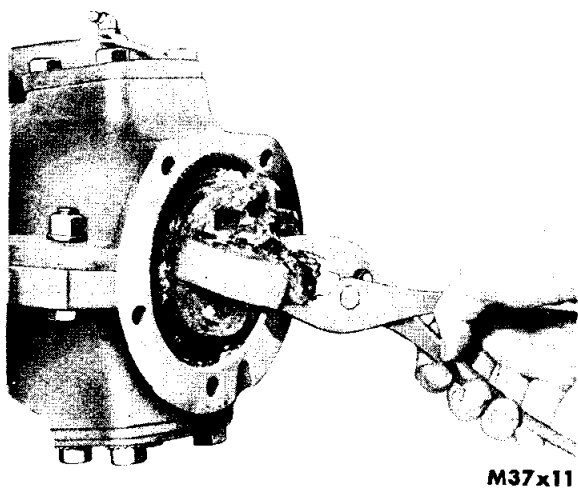

Fig. 35 — Removing Male Drive Joint
- (6) Tap the steering knuckles with a lead, plastic, or copper hammer to remove them from the flange assemblies.
- (7) Pull the short outer shafts and female section of the universal drive assemblies from the front axle housing. The male sections of the universal drive assemblies (Fig. 35), and long inner shafts, can then be withdrawn.